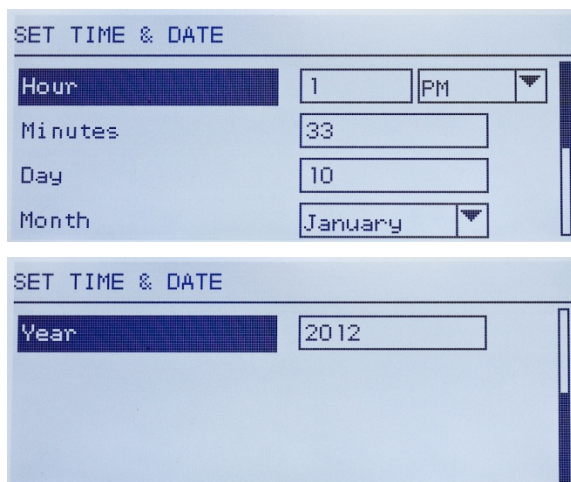
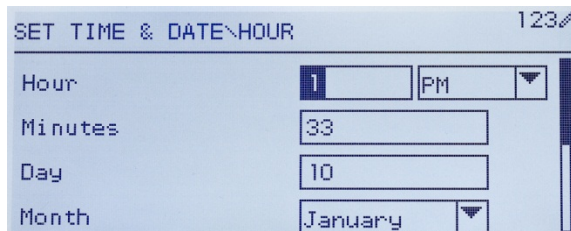

Figure 2-4: Set Time & Date
Figure 2-5: Time & Date Setup, Hour Field in Focus
- When focus is in the left column, as in Figure 2-3 and Figure 2-4, pressing the LEFT arrow key will exit the **SETUP** menu and display the **OPERATOR** menu.
In Figure 2-4, a field label (**Hour**) is in focus. In Figure 2-5, the numeric entry field for the Hour value is selected. Use the number pad keys to modify the value. When the correct number is displayed, press ENTER to confirm the selection and move to the next (**Minutes**) field label.